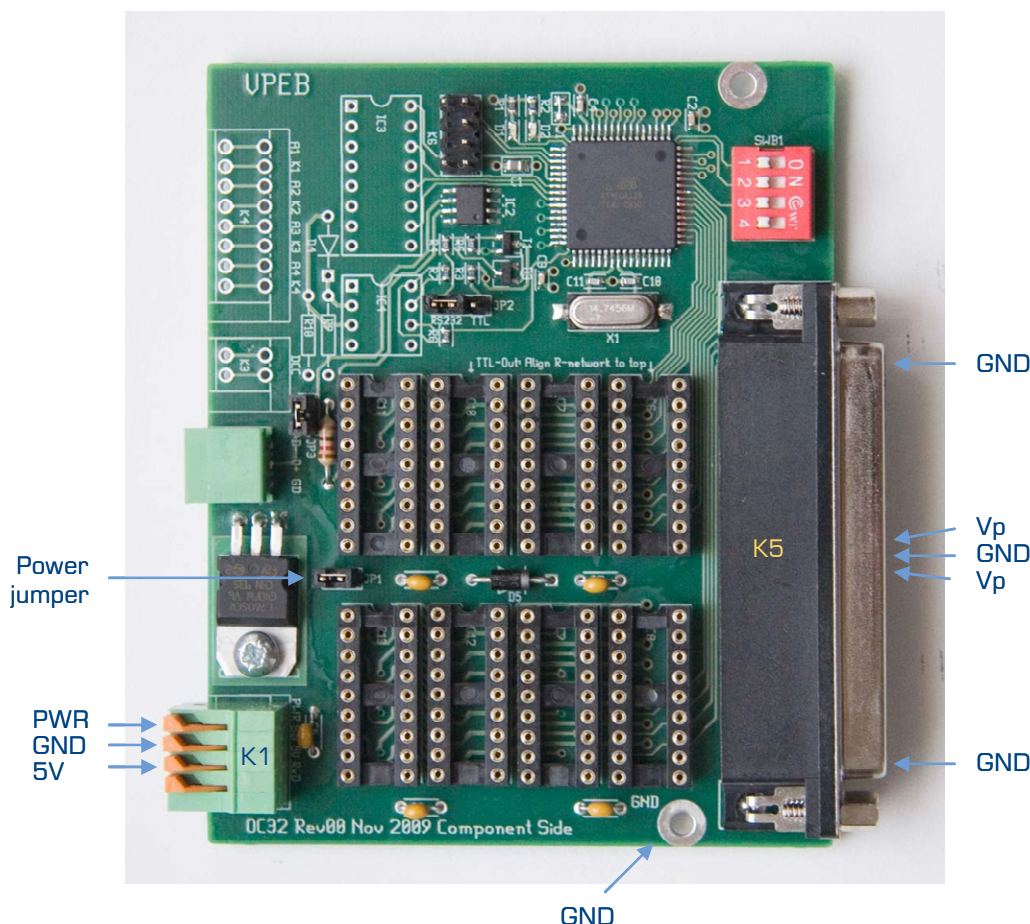

Fig 5: Connecting Power Supplies to the OC32
We assume that you have a connection point in your miniature world that we can call 0V, Ground (GND) or reference voltage. It might be that this "reference voltage" cannot always be found easily, but in a layout controlled by a PC, this reference voltage will in any case be the "GND" of the communications port that your PC uses to control the layout. The 0V/GND (as stated above) of your miniature world has to be connected to the GND connection of the OC32. All points in figure 5 that are labeled "GND" are interconnected on the module itself.
Connect the minus-pole of your power supply to the connection of K1 marked GND/GD. Connect the plus-pole of your power supply to the connection of K1 labeled PWR (figure 5)
- JP1, in figure 5 shown as "Power-jumper", must **NOT** be installed.